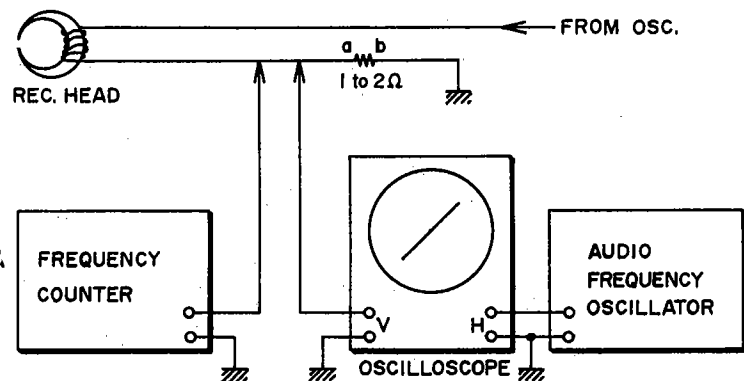

Fig. 25
- 1) As shown in Fig. 25, install a 1 to 2Ω resistor in series with the recording head and connect both of these terminals (a) and (b) to the vertical input of the oscilloscope and set deck to recording mode.
- 1) Connect a Frequency Counter to both terminals (a) and (b) as shown in Fig. 25. Set deck to recording mode and take a frequency counter reading.